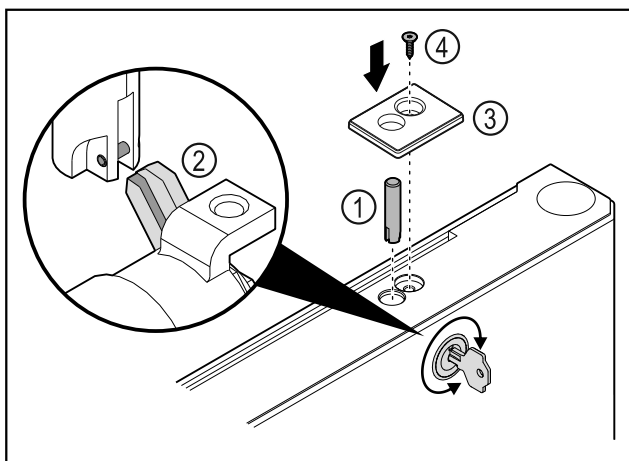

Fig. 42
- Put in the lock bolt Fig. 42 (1).
- Turn the lock slightly so that the lock bolt Fig. 42 (2) engages in the slot of the lock.
- Put in the cover Fig. 42 (3).
- Insert the screw Fig. 42 (4).